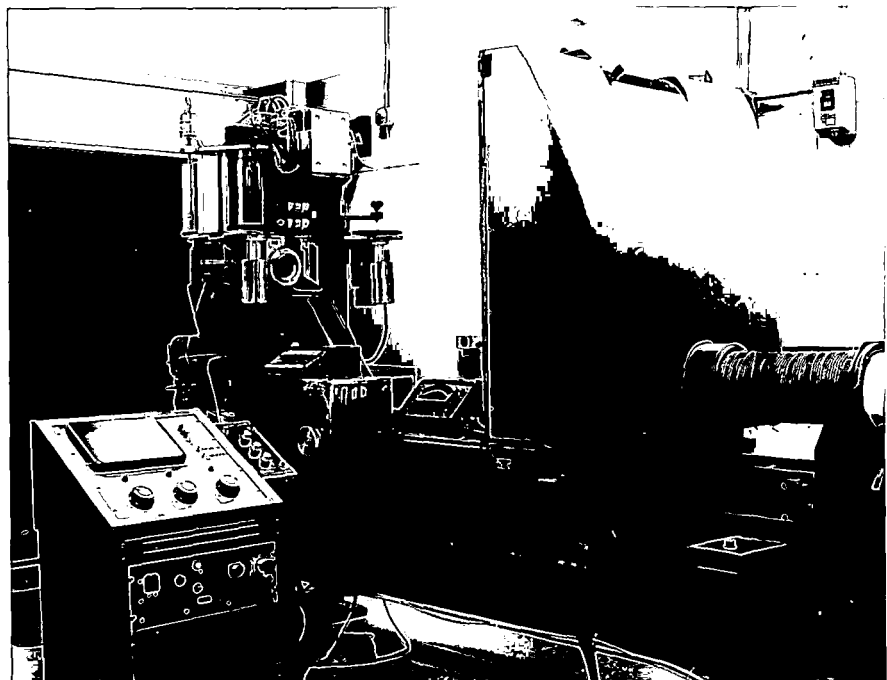

FIGURE 66
- Figure 66 - Beacon Precision Enlarger (BPE)